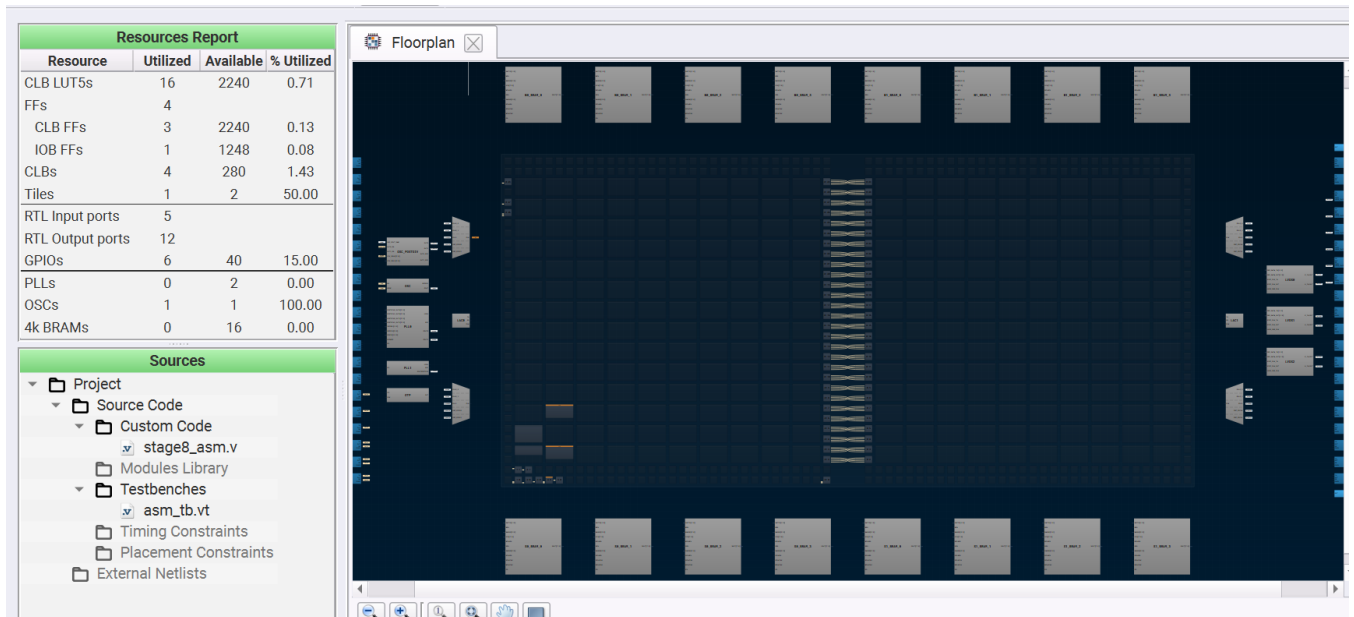

Figure 5. 2-tile Floorplan
7. Click on the Floorplan tab and see the CLB utilization (See Figure 5). Press the Ctrl and the mouse wheel to zoom-in. Confirm that the IOs selected in the IO Planner are shown in the floorplan.